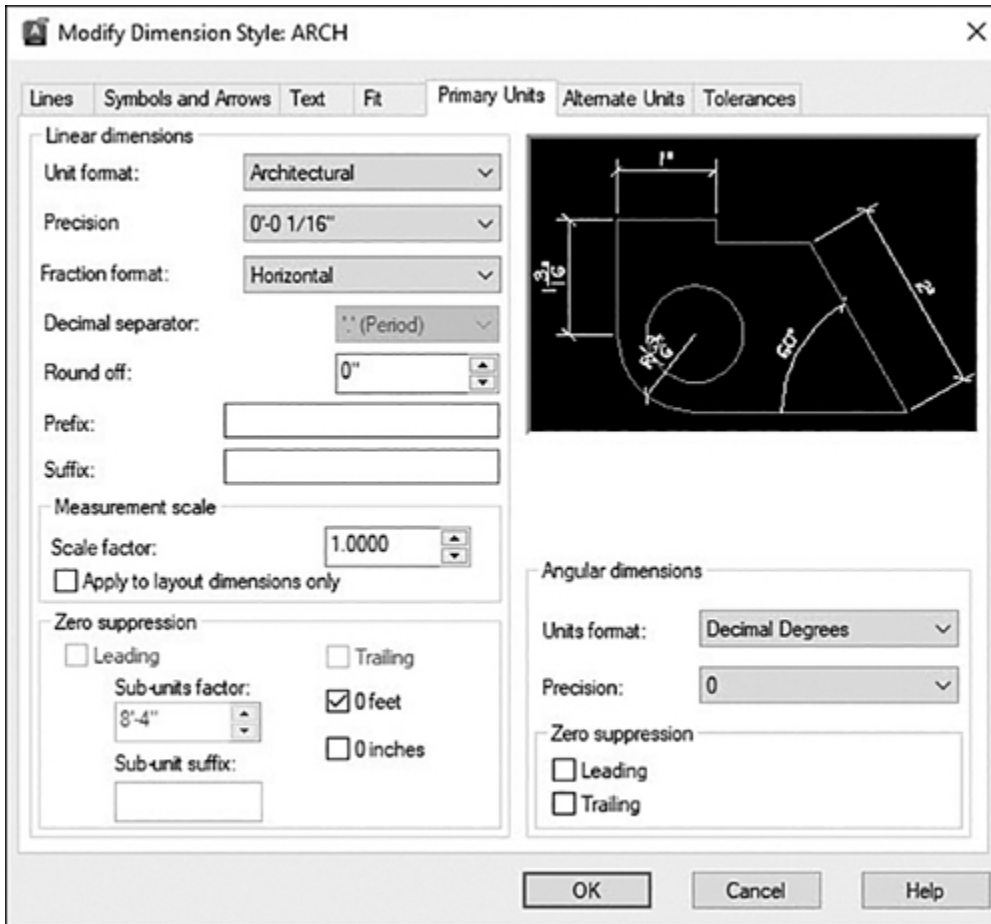

Figure 13-110
4. Dimension the graphic scales as shown in Figure 13-110 using the dimension style **Standard** on the layer **A-Anno-Dims**.